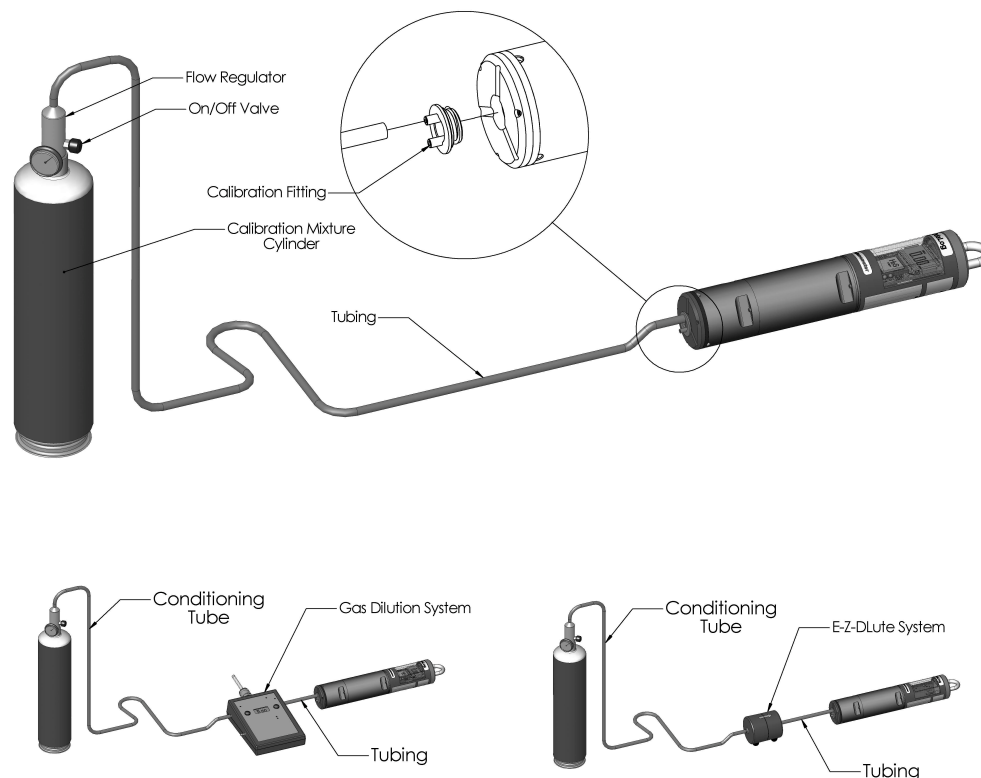

Figure 9: Calibration Mixture Connections
Set the calibration level via the software package (“Instrument Parameters” section) to correspond with the level being applied during calibration. Connect the appropriate Calibration Mixture (Table 2) as shown in Figure 9 to the OdaLog using the adapter cap provided. Do not open the gas valve until in “CAL” mode. To enter “CAL” mode follow the steps shown in section 9.7 Entering Calibration Mode.
- a. Connect the appropriate Calibration Mixture (Table 2) to the OdaLog as shown in Figure 9.